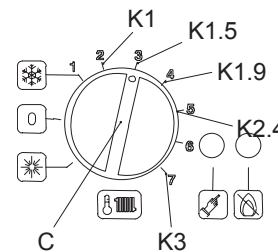

Figure 15.10
- Position the handle C indicated in Figure 15.10.
In case of acting on the knob C Fig. 15.10 to turn off the boiler or to operate it for hot water only, **put the knob in the same position when reactivating the central heating operation.**
The knob C Fig. 15.10 must remain on the position given by the installer. This will ensure the proper operation of the central heating system.